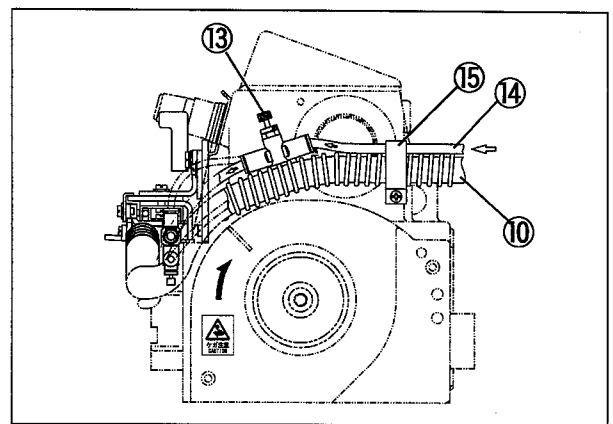

Fig. 13
- (5) Bind the three air pipes ⑭ and the suction hose ⑩ by the cord clamp ⑮ and attach them to side of machine frame. (Fig. 13)